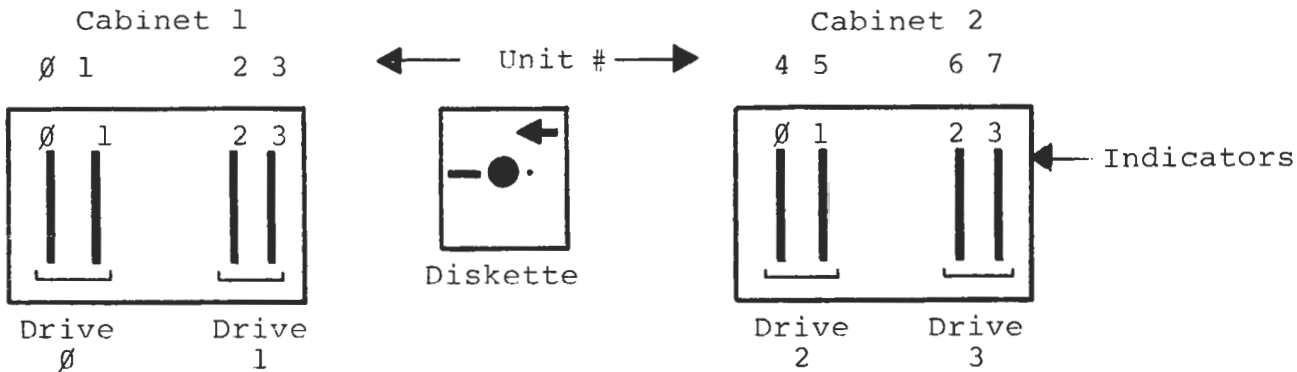

Figure 4-2 Helios System Terminology
The terms used in this manual in relation to the drive configurations are illustrated in Figure 4-2 "Helios System Terminology."
4.2.1 HELIOS TERMS (Refer to Fig. 4-2)
The Helios system is capable of accommodating up to 8 units, as shown in Figure 4-2. Model 2 contains two units only. In systems containing more than two units, each pair of units must be able to identify itself to PTDOS as being units 0-1, 2-3, 4-5, or 6-7.
Additional Selectors designated 2-3, 4-5, and 6-7 are available. If a second drive is added in the same cabinet, install a Selector 2-3 in it. The left-hand drive in a second cabinet should receive Selector 4-5 whether or not the first cabinet has a second drive identified 2-3. The right-hand drive in a second cabinet should receive Selector 6-7. This arrangement of unit identification is shown in Figure 4-2, "Helios System Terminology."